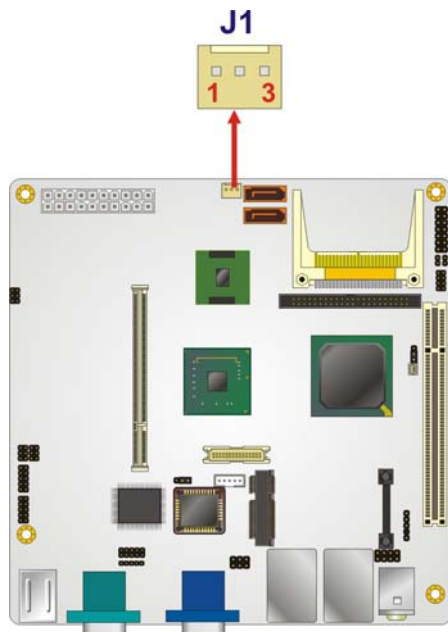

Figure 4-6: CPU Fan Connector Location
- CN Location:** See **Figure 4-6**